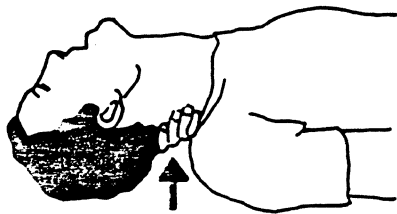
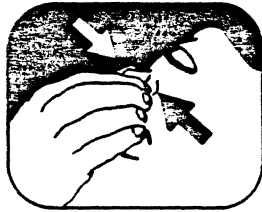

Figure 1.
Figure 2.
- c. Lift the neck with one hand, and tilt the head backward by pressing on the forehead with the other hand. See Figure 1.
- a. Keep the victim's head tilted backward; (see Figure 1). Continue to press on the forehead with your hand; at the same time, rotate this same hand so that you can pinch together the victim's nostrils with your thumb and finger. See Figure 2.